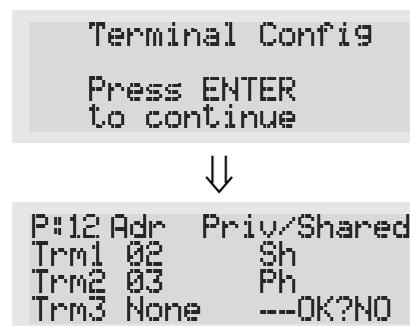

Fig. 5
- 再次按下↓键，依次将显示如Fig. 5的内容；
- pressing ↓ again displays the screens shown in Fig. 5, in sequence;